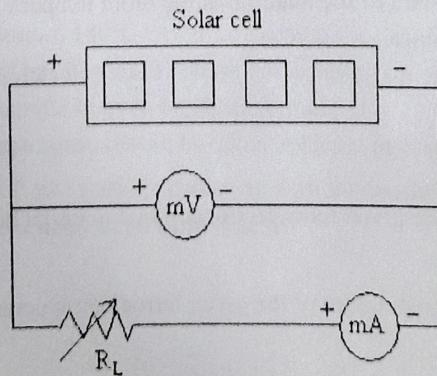

Figure 1: Study of I-V characteristics of a Solar cell
1. Complete the circuit connections as shown in Figure 1. Then place the light source at a distance of 'x' (=10 cm) from the solar cell.